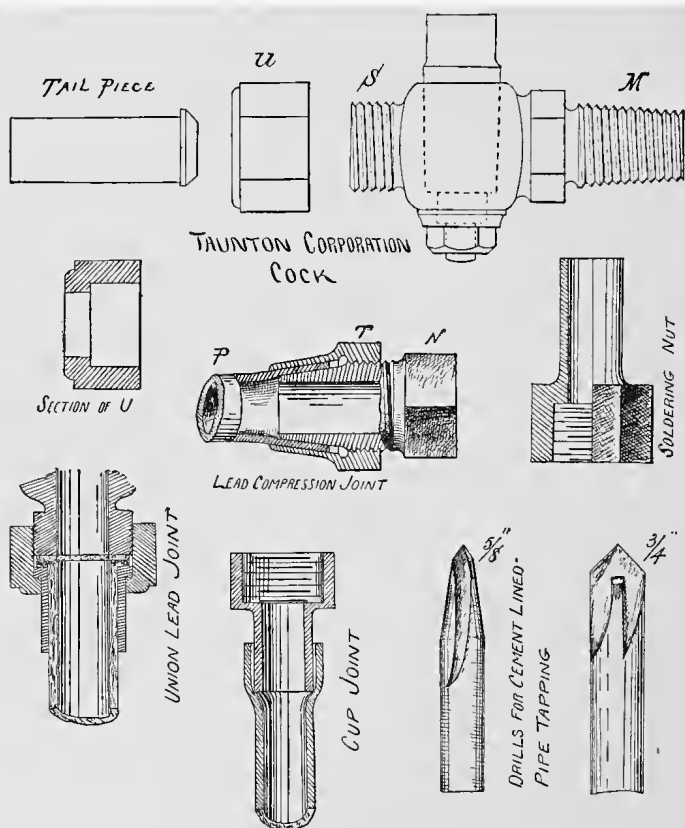

FIGURE 22.
Referring to Figure 22, in which is represented the particular pattern of corporation cock, with full  $\frac{3}{4}$ -inch way designed by the writer, for use upon the Taunton Water-Works, the end M is the end which is screwed into the main. The general form of this end is the same no matter what is used for service-pipe. Something is saved in the cost of manufacture by using the same thread at S and M. Eleven, twelve, fourteen, or sixteen threads to the inch are admissible, but fourteen has been found to give good results in the practice of the writer. At the end S and in the parts immediately following there is room for great variation in form and method. With the nut *u* (shown also in section) and the tail-piece forming a ground union-joint at the end S, this form of cock may be used (1) with lead service-pipe by making a wiped joint or a cup-joint between the lead pipe and the tail-piece; or (2) with any kind of wrought-iron service-pipe by joining on to the tail-piece a short piece of lead pipe, perhaps 18 inches, just as if the service were to be of lead pipe, and then, by attaching a soldering nut, as shown, and continuing the line with screw-joint pipe.
The compression-joint was in use a few years ago in Taunton, but was abandoned for a cup-joint. The corporation-cock then in use was shaped at the end S like the projecting part of N in the compression-joint shown in Figure 22, and tightness was secured by scraping the outside of the lead pipe to a reasonably smooth surface, so that the cone-shaped nut would draw the lead pipe firmly over the conical projection ; the lead pipe having been first spread by driving in a solid plug.
It is evident that this principle can be applied in a variety of ways, and that castings can be designed to fit any combination of materials. For example, the cup-joint in Figure 22 shows how a wrought-iron service-pipe may be joined to a lead connection from the corporation-cock. The lead pipe is attached by a wiped or cup joint to the soldering nut, which is tapped out to receive any size of wrought iron or brass pipe that one chooses.
Still another form of joint has been brought to my attention, by Mr. J. G. Briggs, Superintendent of Water-Works at Terre Haute, Ind., and shown also in Figure 22, as a union lead joint. Mr. Briggs says the idea is not a new one, but was used twenty years ago or more by an English company who did a large amount of work at Rio Janeiro, Brazil, and that in San Francisco the joint has been used for sixteen years with good results. The lead pipe is put through the
A cup-joint is shown in Figure 22, and is made by expanding the end of the lead pipe with a properly shaped plug, scraping the inside of the cup with a jack-knife to give a surface of clean metal, dropping a soldering nut or tail-piece, properly tinned, into the cup, heating the whole joint by some appropriate method, and finally by filling the thin annular
soldering with an ordinary iron, or by wiping, and then, with an arrangement similar to that shown in Figure 24, a hole is drilled, passing the drill through the opened cock. After perforation the drill is withdrawn just far enough to allow the tapper to close the cock, and then the tapping apparatus is removed, the stuffing-box at P having kept the water back during the operation. Any convenient form of drill may be used, but Figure 22 shows the form used at Plymouth, Mass.